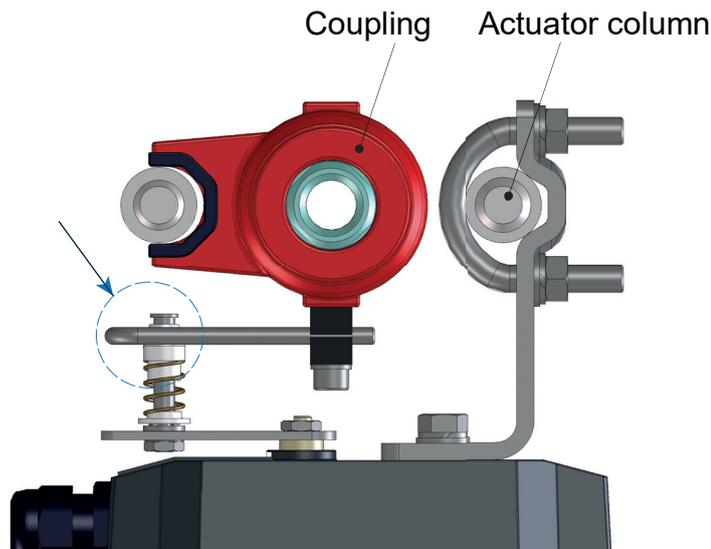

Fig. 15
Align the positioner so that the carrier pin (pos. 601.1) engages with the pick-up bracket (pos. 646) (see Fig. 15).